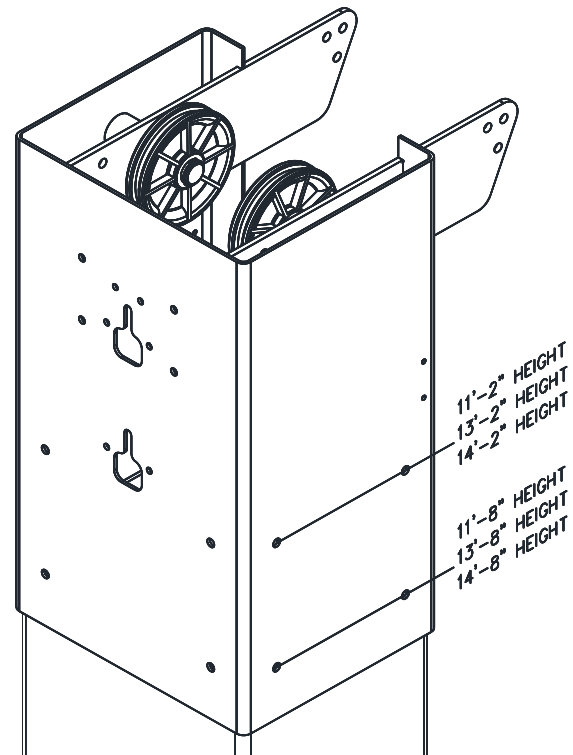

Fig. 5 – Column Extension Assembly
- 6) Assemble column extension to column using 3/8-16 x 3/4" lg hex flange head bolts, **Fig. 5**. Repeat for opposite column and extension.